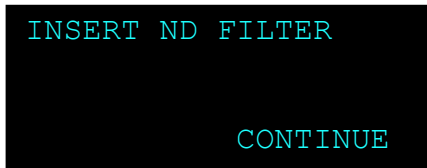

Figure 7-5 The Span Test Start Screen
Once the zero test is complete, the span test must be performed using the 83011 neutral density (ND) filter. The measurement module will open, and the screen will display instructions to insert the ND Filter as shown in Figure 7-5.